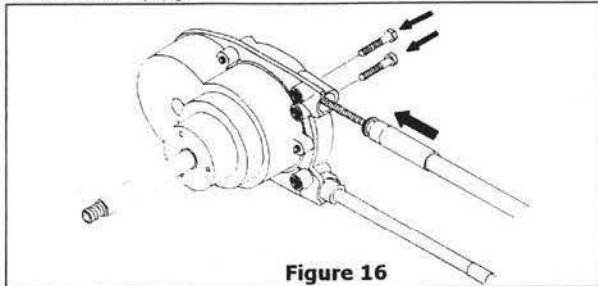

Figure 16
STEP 2. Feed the cable end into the UPPER helm entry spigot until it contacts the internal gear, then turn the steering wheel to draw the cable fully into the helm (see Figure 16). Continue turning the steering wheel until the end fitting of the cable is fully inserted into the entry spigot.